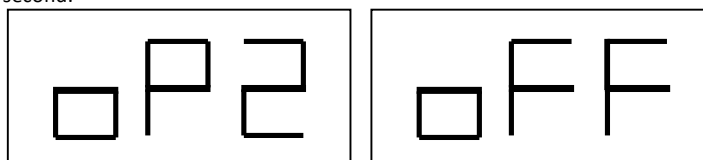

**Fig. F7.1 Enabling the memory of operator 2. The memory of operator 1 is stored.**
1. When the machine is free, press [F+P6] to select operator 2. The LED located next to the button lights on to indicate that operator 2 is enabled. The message shown in figure F7.1 will be displayed for one second.